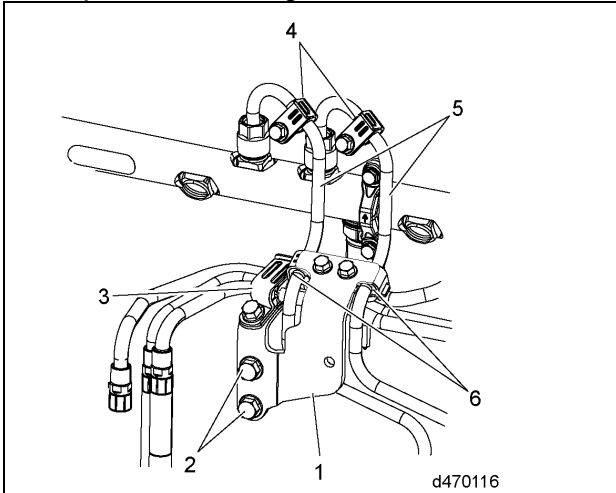

Figure 6 – Three-Filter Fuel System with Bolted Vibration Dampers
2. Check the date code [YYMMDD] on the high pressure fuel rail feed line fitting. See Figure 6.
- For engines with **three-filter fuel system** and **bolted vibration dampers**, inspect and verify the mounting bracket (1) and its attaching bolts (2), the two P-clips (6), the high pressure fuel feed lines (5), and the two vibration dampers (4) are not missing or loose. Do not attempt to loosen, tighten or otherwise disturb any of the parts. See Figure 6.